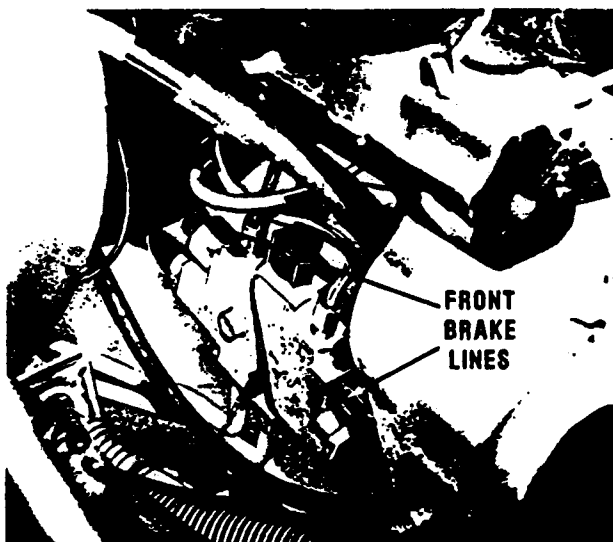

Fig. 15 — Front brake lines.
1. Leave the front brake lines connected to the valve (Fig. 15).